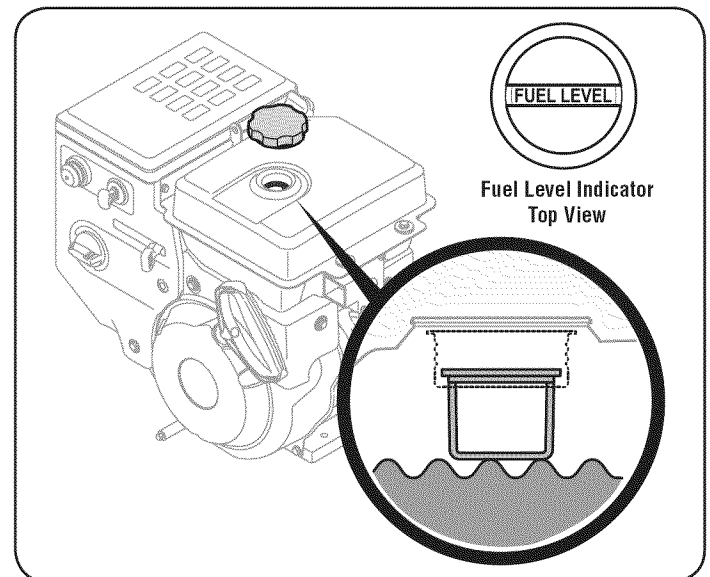

Figure 10
2. A fuel level indicator is located in the fuel tank. Fill tank until fuel reaches the fuel level indicator, Figure 10. Be careful not to overfill.